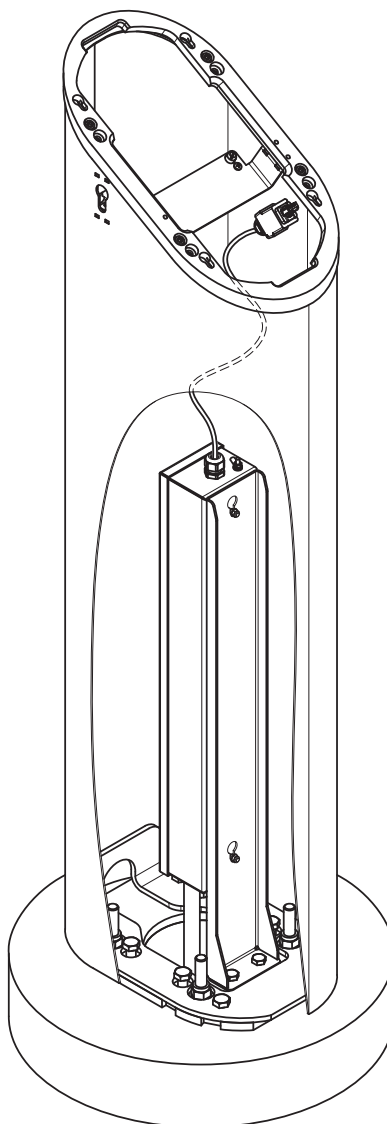

Figure 3-8 Orientation of the Column with Respect to the Power Supply Unit
- Step 1** Place the column onto the base plate such that the lower side of the column aligns with the back side of the power supply unit as shown in **Figure 3-8**.